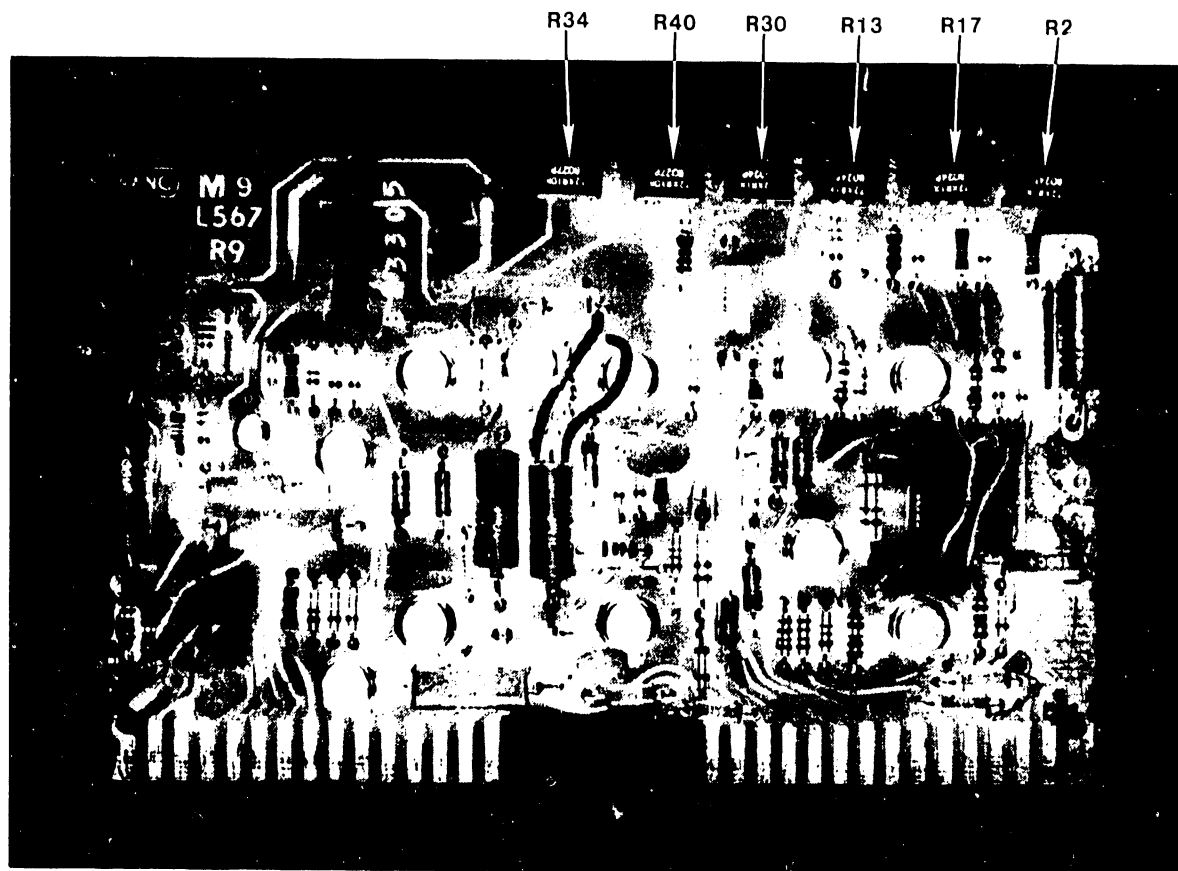

Figure 4-1. WL No. 210-L567 Regulator Board Potentiometers
- d. Check the dc voltages with a digital voltmeter for the values listed in table 4-1. (The test points for monitoring the voltages are also given in table 4-1.) Adjust the trimpots where indicated in figure 4-1 to obtain correct voltage levels where necessary.